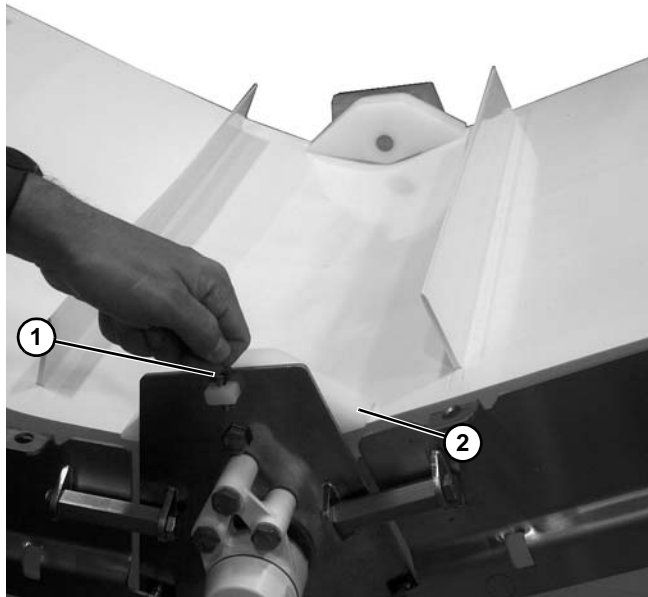

Figure 103
4. Remove pull pin (**Figure 103, item 1**) and roller guard (**Figure 103, item 2**) on each side of conveyor on lower knuckle plate.